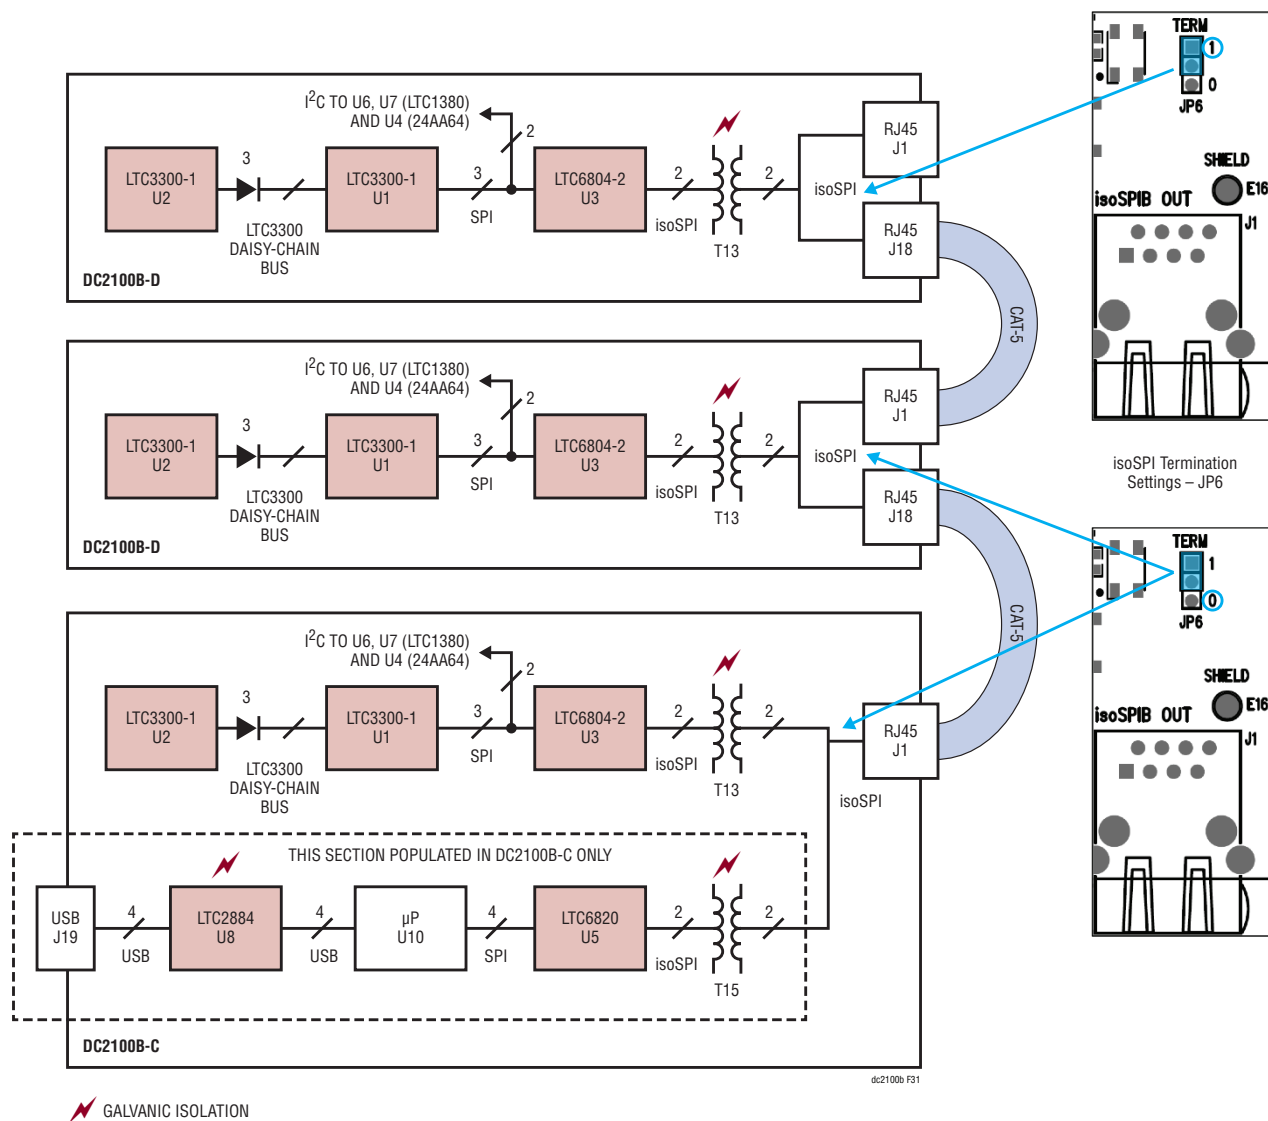

Figure 31. Connection of Multiple DC2100B to Support a Larger Battery Stack
When connecting two or more DC2100B boards together, the interface cables must be connected as shown in Figure 31 to avoid large inrush currents. When connecting more than one DC2100B's into a system containing more than 12 batteries, DC2100B-D are used in locations 2 through 8. The PC USB port is connected to the bottom DC2100B-C (J19) board first and then the
3. CALIBRATION DATA WINDOW – FIGURE 31